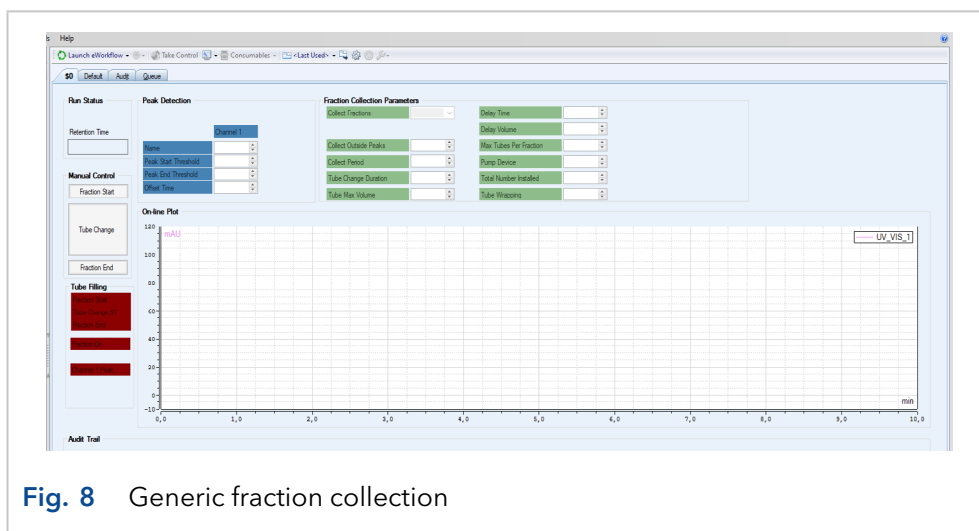

Fig. 8 Generic fraction collection
- The current tube number (see figure 8)
The following rows are the definition of how the third-party instrument should proceed under the above defined conditions. In this case the Foxy. Valve switches to the "ON" position and the Foxy. Tube switches to the Tube number of the generic fraction collection. For example, when fraction 5 starts in the generic fraction collector (see figure 8), the Foxy.Tube will be the same number.